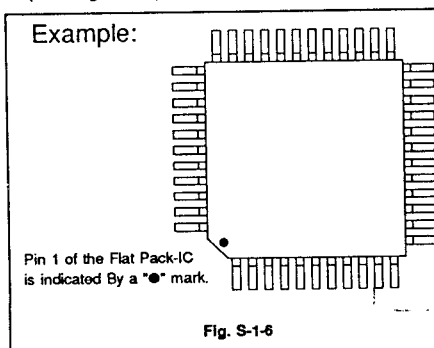

Fig. S-1-6
- The "●" mark on the Flat Pack - IC indicates pin 1 (See Fig. S-1-6). Make sure this mark matches the 1